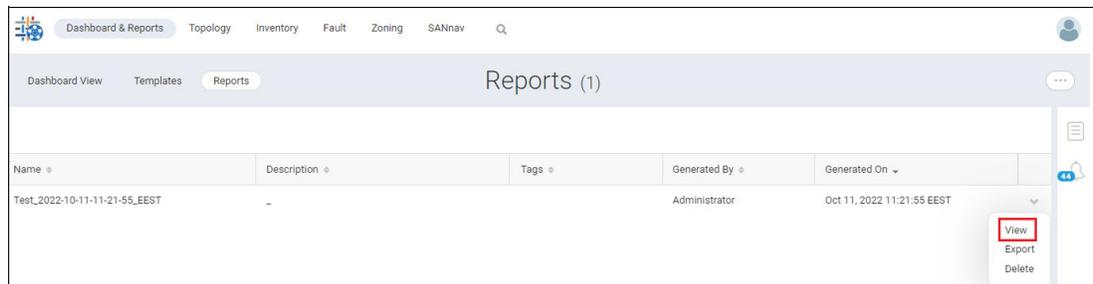

Figure 5-145 View report
- Find the report that you want to see and select **View** from the action menu (Figure 5-145).